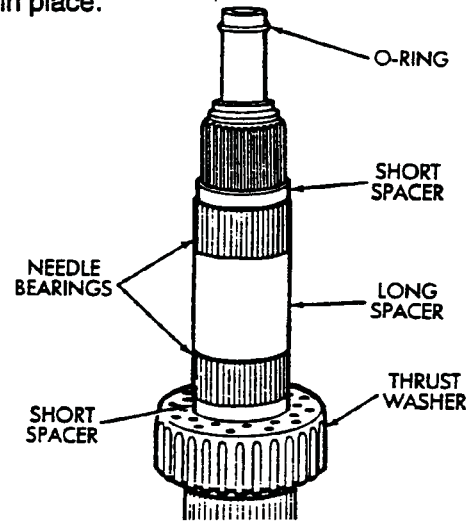

Fig. 4-52 Install Mainshaft Thrust Washer, O-Ring, Needle Bearings and Spacers
43. Lubricate and install new O-ring and thrust washer on mainshaft (Fig. 4-52).
- Then install second set of needle bearings and remaining short spacer (Fig. 4-52).